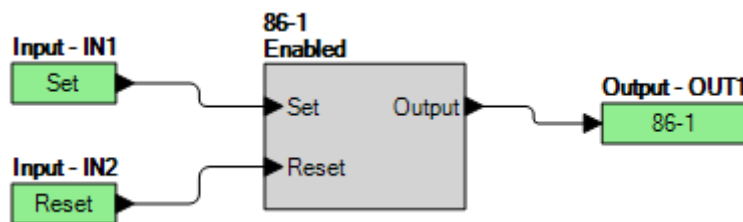

Figure 74-1. BESTlogic*Plus* Settings
Step 2: Use BESTCOMSP*lus* to configure the BESTlogic*Plus* programmable logic shown in Figure 74-1.